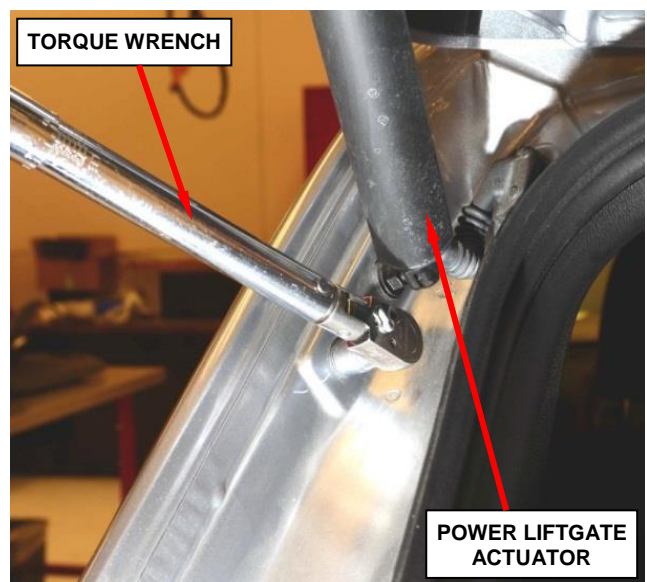

Figure 24 – Tighten Bolt with Torque Wrench
4. Using a torque wrench, carefully tighten the bolt to 18 ft. lbs. (24 N·m) (Figure 24).